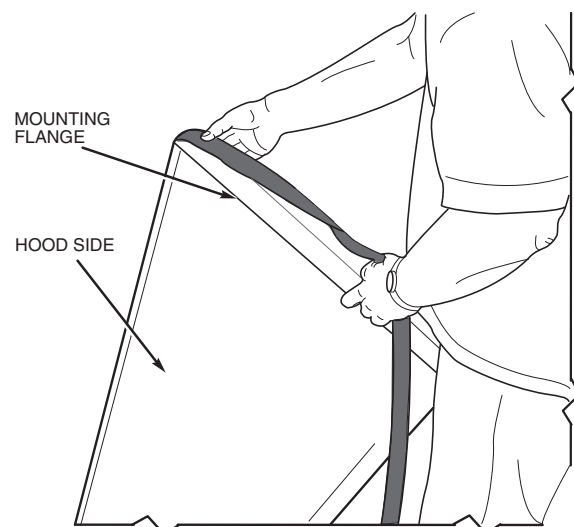

Fig. 28 — Adding Seal Strip to Sides of Hood Top Mounting Flange
4. Apply black seal strip (provided) to mounting flanges of hood sides being sure to cover mounting holes. See Fig. 28.